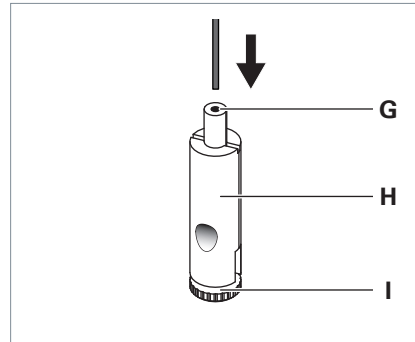

Fig. 8: Mounting the wire rope holder.
- ▶ Guide the wire rope through the guide bushing **G** of the wire rope holder **H**, see Fig. 8.